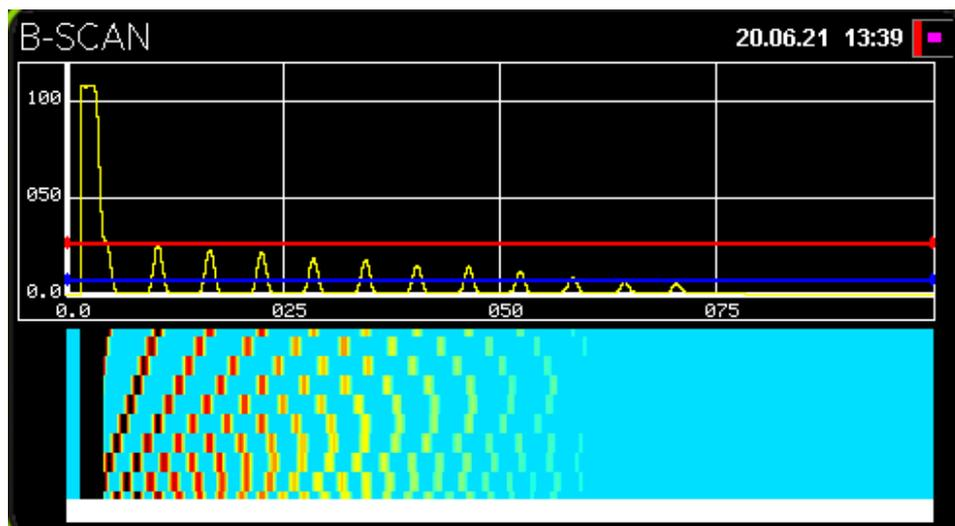

Figure 3.7 – B-scan window appearance
3.3.1 B-scan (Figure 3.7) is used for simultaneous display of A-scan (with two thresholds: blue and red) and B-scan (sectional profile of the test object under inspection).